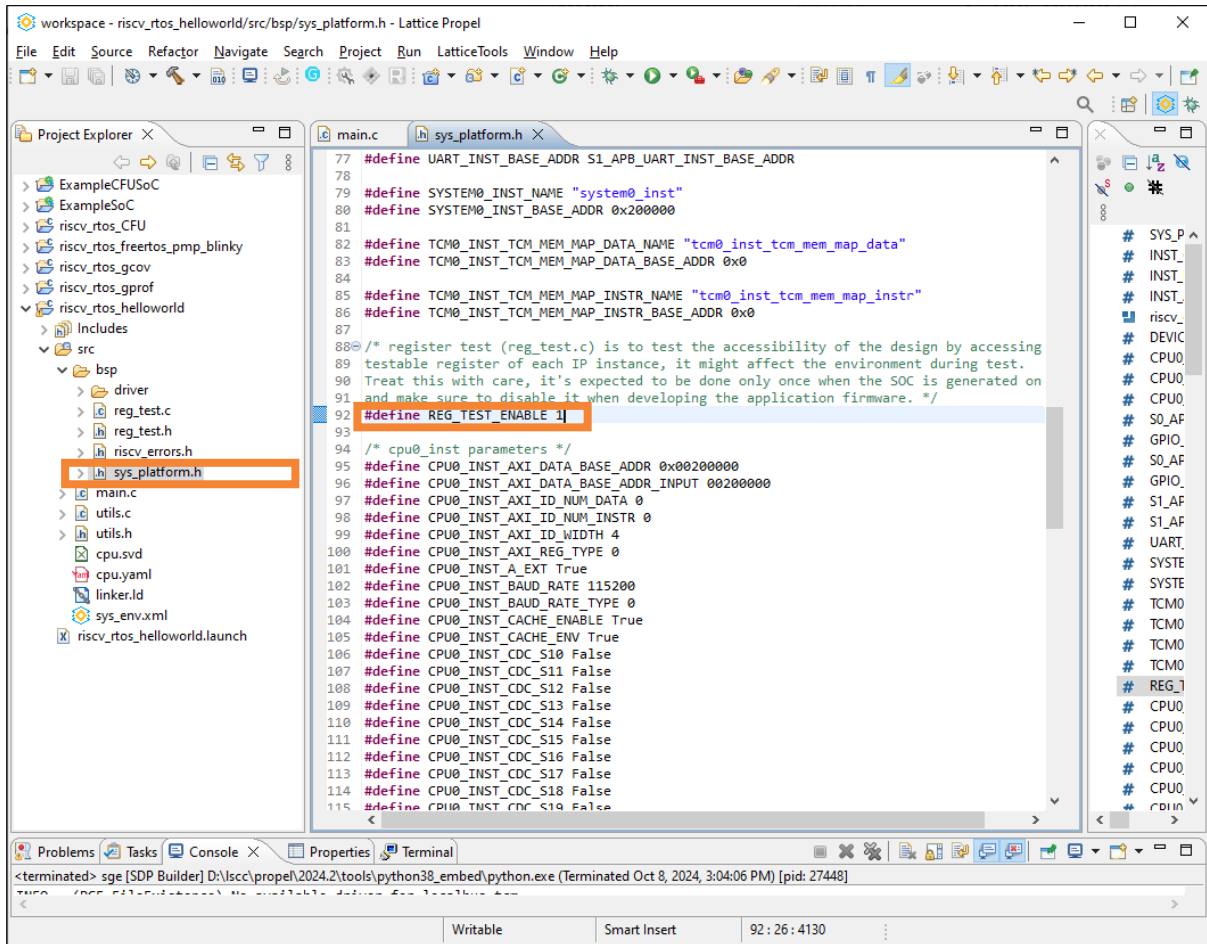

Figure F.5. Enabling Test Code
2. Set define REG\_TEST\_ENABLE to 1 in the file `sys_platform.h` (Figure F.5).